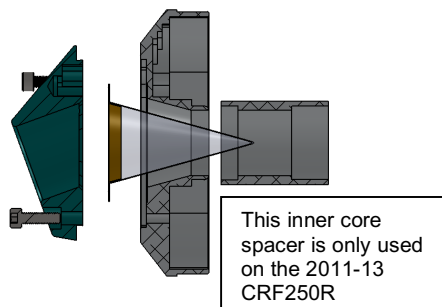

Figure 4
8. **If installing on a 2011 CRF 250 R (if not, go to step #10):** Remove the inner core and use a hacksaw or band saw to cut the inner ore flush with the inside edge of the support. **Figure 4**, then skip to step #11.
9. **If installing on a '12-'13 CRF 250 R:** Remove the inner core and use a hacksaw or band saw to cut off the inner core 3/8" back (towards motor) from inside edge of the support. **Figure 4**.